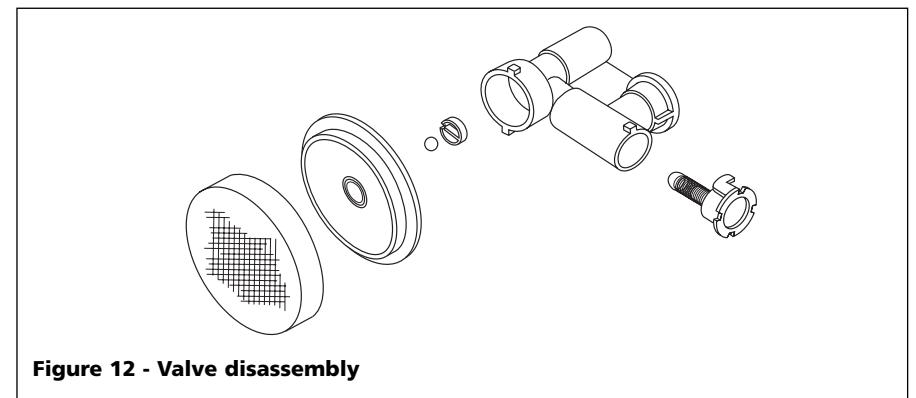

Figure 12 - Valve disassembly
2. Disassemble as shown in Figure 12.